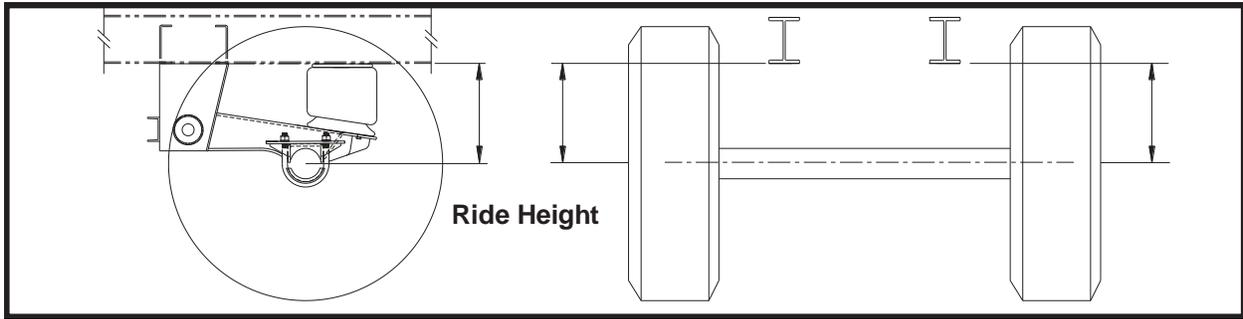

Figure 15
2. The suspension must be at the correct ride height to align properly. This can be done by adjust landing gear or using jacks to support the trailer. If trailer is upside down to mount suspension, the axles may be blocked to the proper ride height. Trailer and axles must be level. Refer to **Figure 15** and make sure ride height is the same on **both** sides of trailer frame.
2. The suspension must be at the correct ride height to align properly. This can be done by adjust landing gear or using jacks to support the trailer. If trailer is upside down to mount suspension, the axles may be blocked to the proper ride height. Trailer and axles must be level. Refer to **Figure 15** and make sure ride height is true on **both** sides of trailer frame.